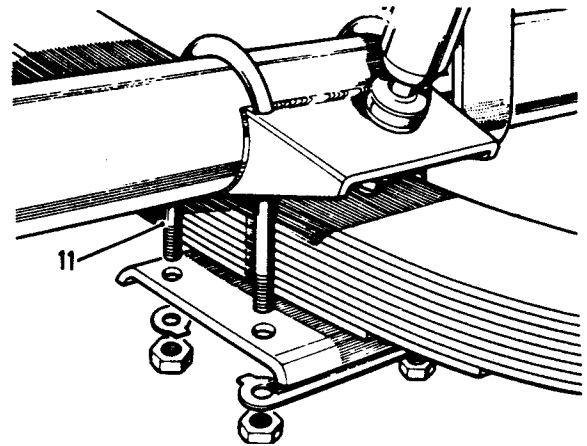

Fig J1.12
- (3) Refer to Fig J1.12. Replace the four U-bolts.